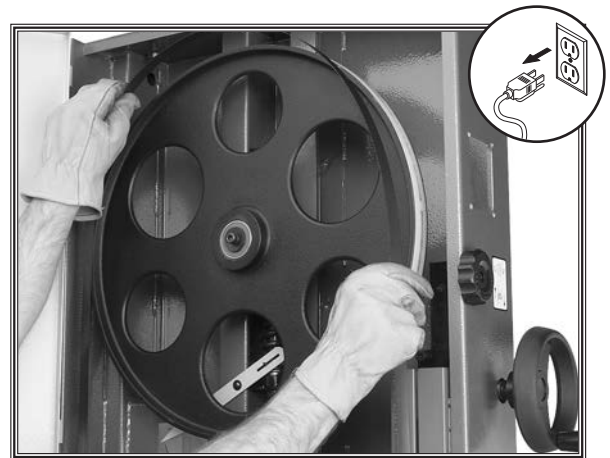

Figure 73. Example of placing blade on upper wheel.
3. Slip blade through blade guides, and mount it on upper and lower wheels (see **Figure 73**).